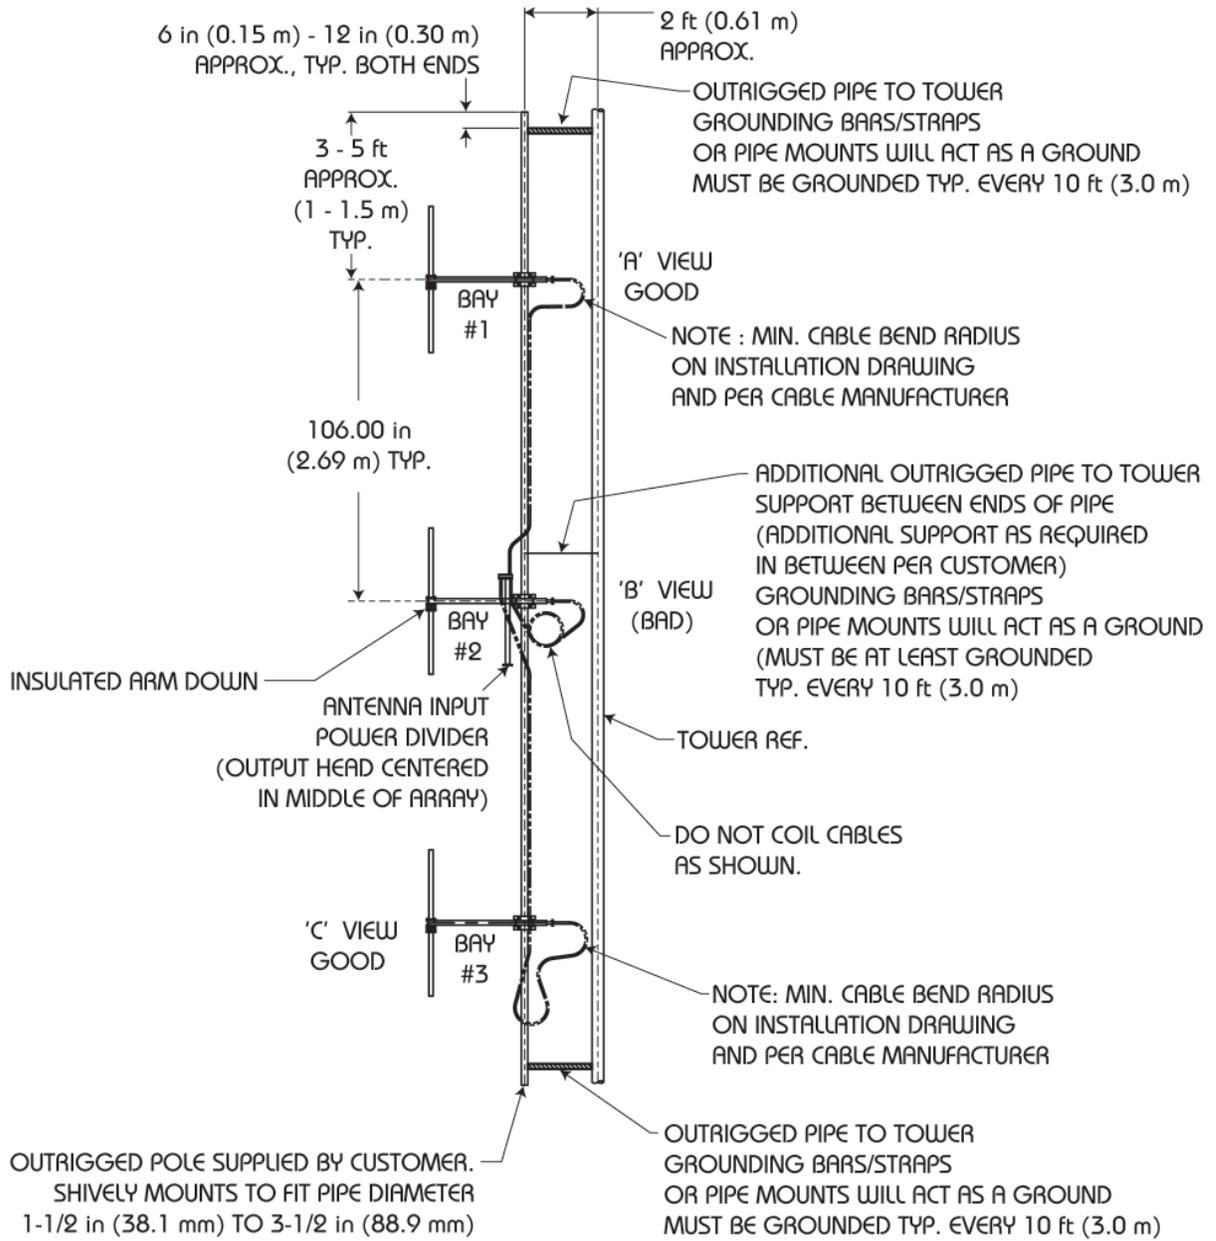

Figure 4. Multi-Bay Installation
- e. DO NOT COIL any excess cable. Dress up any excess cable and tie-wrap it to the tower leg, as shown in Figure 4, to prevent wind damage to the cable or the antenna. When feasible, route the cables to take advantage of shielding from tower members to minimize added windload.